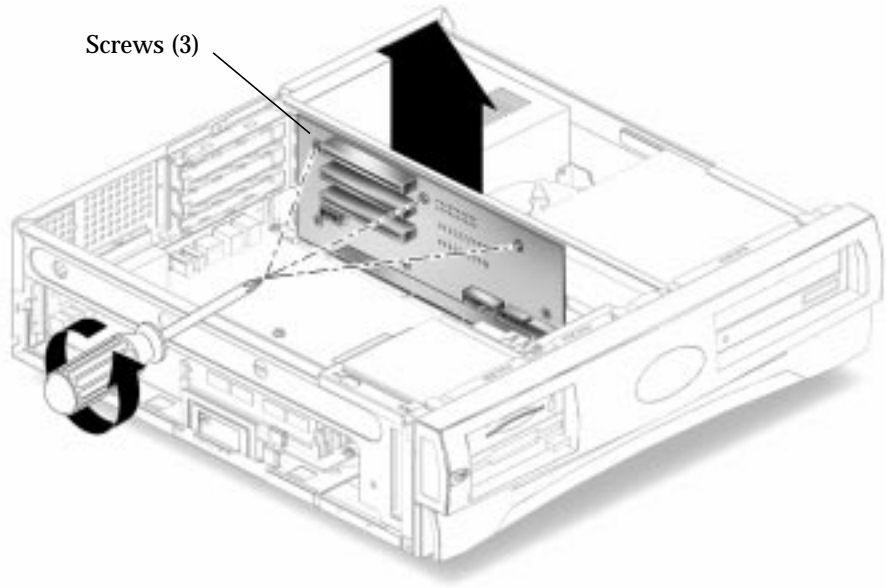

FIGURE 8-9 Removing and Replacing the Riser Board
5. **Using a No. 2 Phillips screwdriver, remove the three screws securing the riser board to the system chassis (FIGURE 8-9).**
- 1. Position the riser board into the chassis (FIGURE 8-9).**